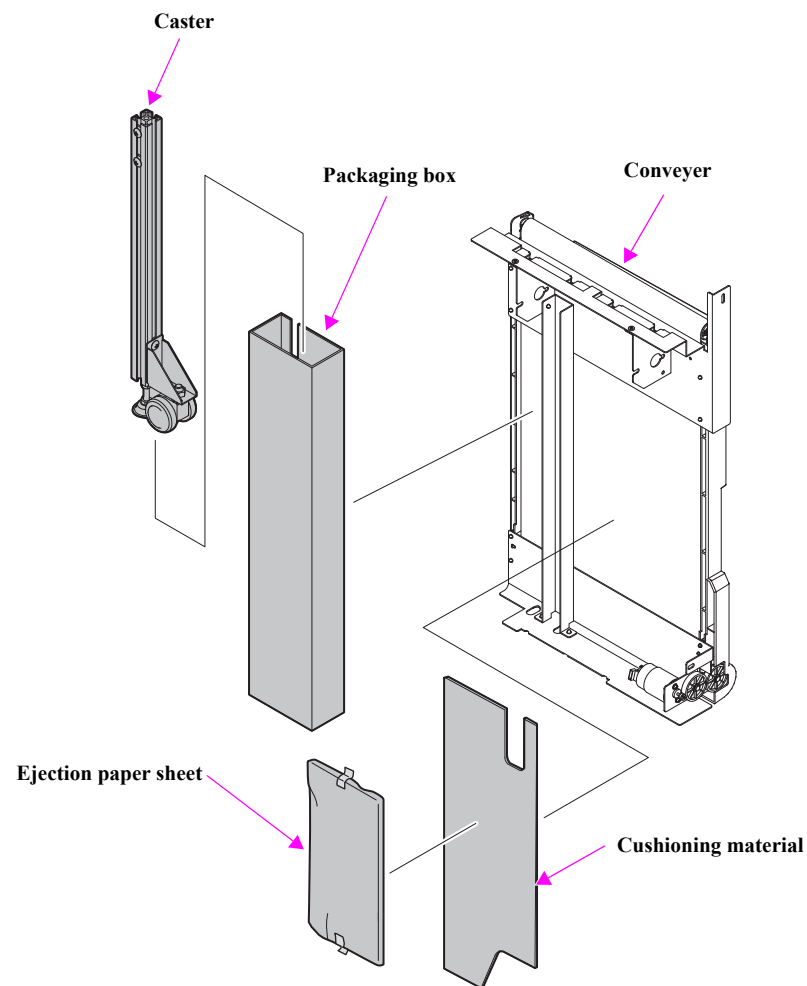

Figure 1-13. Unpacking the Optional Items (7)
- ◆ Caster (*Figure. 1-13*)
- ◆ Ejection paper sheet (*Figure. 1-13*)